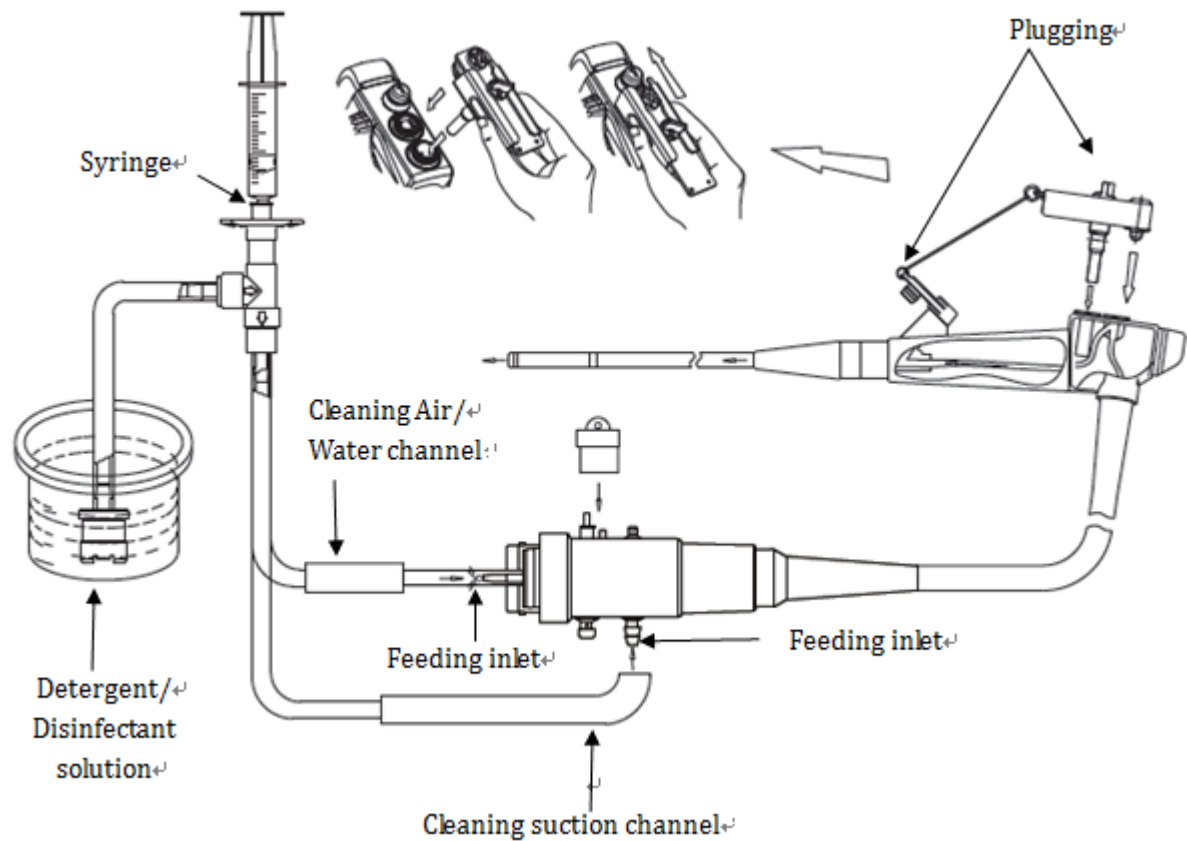

Figure 5.2
(5) Before cleaning the air/water channel, connect the purge pipe of the tube cleaner (disinfector) to the air feeding joint at the light guide connector. Meanwhile, use the matching plug of the tube cleaner (disinfector) to block the water bottle connector and the air/water cylinder of the endoscope. Then, put the inlet valve of the tube cleaner (disinfector) in detergent solution, and repeatedly aspirate the syringe to wash the air/water channel. (For the connection and operation method, see Figure 5.2 Tube Cleaning and Disinfection)
(6) Before cleaning the suction and instrument channel, connect the purge pipe of the tube cleaner (disinfector) to the suction connector on the light guide connector. Meanwhile, use the matching plug of the tube cleaner (disinfector) to block the suction cylinder and the biopsy port of the endoscope. Then, put the inlet valve of the tube cleaner (disinfector) in detergent solution, and repeatedly aspirate the syringe to wash the suction and instrument channel. (For the connection and operation method, see Figure 5.2 Tube Cleaning and Disinfection.)